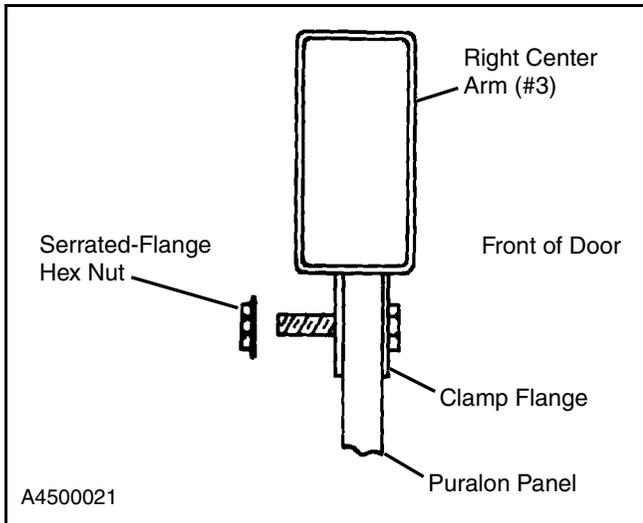

Figure 31
5. Attach the right center panel and clamp flange to the center arm with 5/16-18 serrated-flange hex nuts provided with the door. (See Figure 31.)